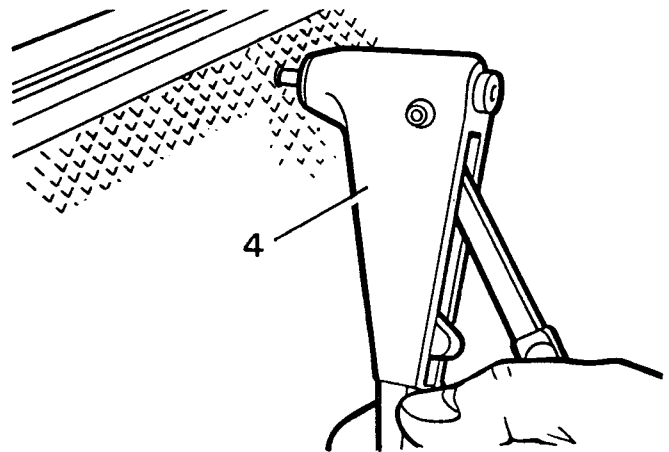

Figure 4
4. Refit the back rest in reverse order ensuring the division panel is correctly positioned. See Figure 4.